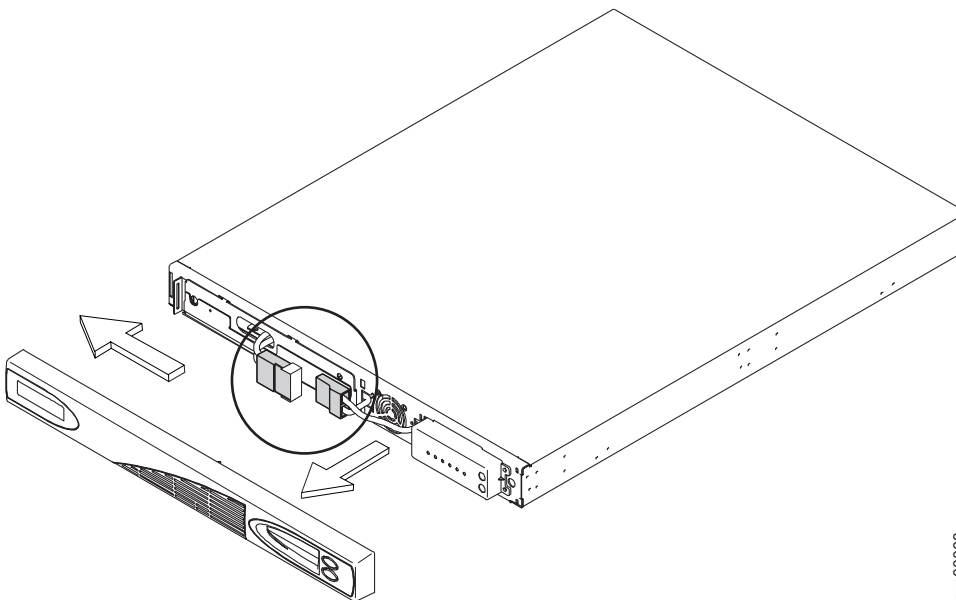

Figure 317. Removing the 2145 UPS-1U front panel
5. Remove the 2145 UPS-1U front panel by pulling it towards you and to the left, as shown in Figure 317.